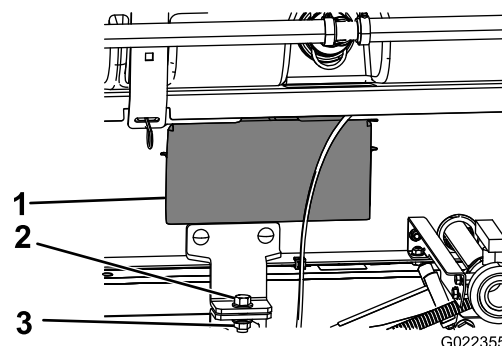

Figure 36
5. Remove the access panels at both sides of the skid frame (Figure 36).
each side of the machine with a bolt (1/2 x 1-1/2 inches) and a locknut (1/2 inch) as shown in Figure 36.